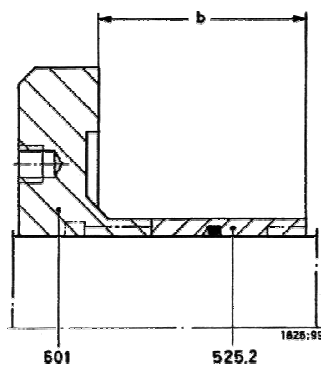

Figure 39 – Rotor adjustment, distance "b"
Then measure distance "b" from the contact face of the balance disc (601), dismantled, to the end of the spacer (525.2) (Fig. 39).